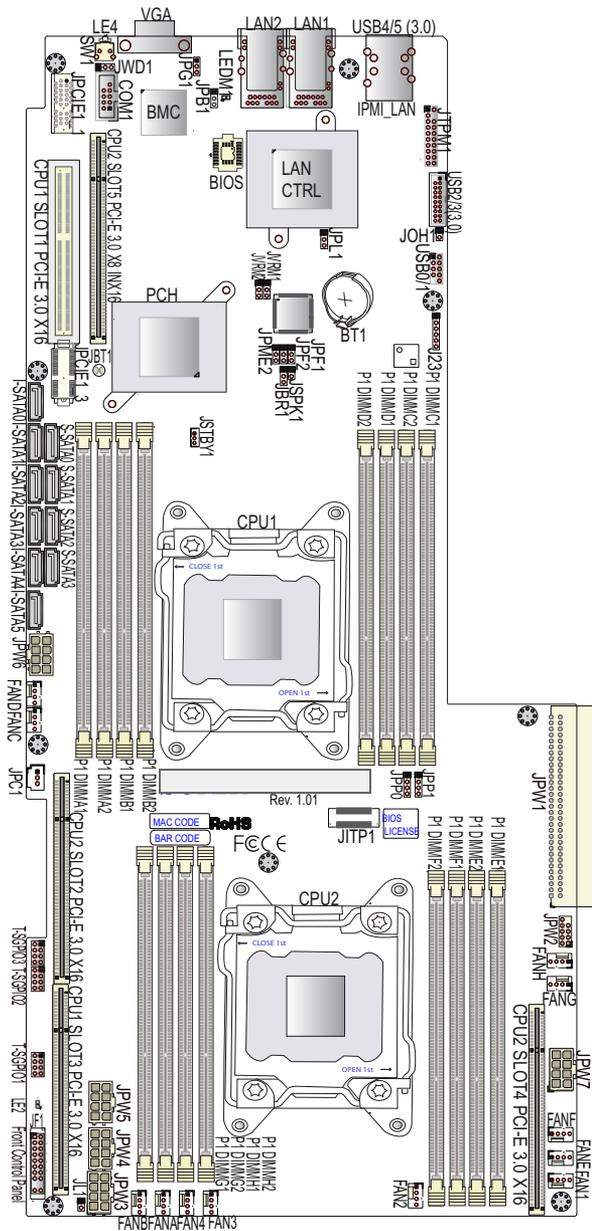

Figure 5-2 Node Board Layout Example
- See Figure 5-2 on page 36 for CPU locations on the serverboard - note that the drawing is not to scale.